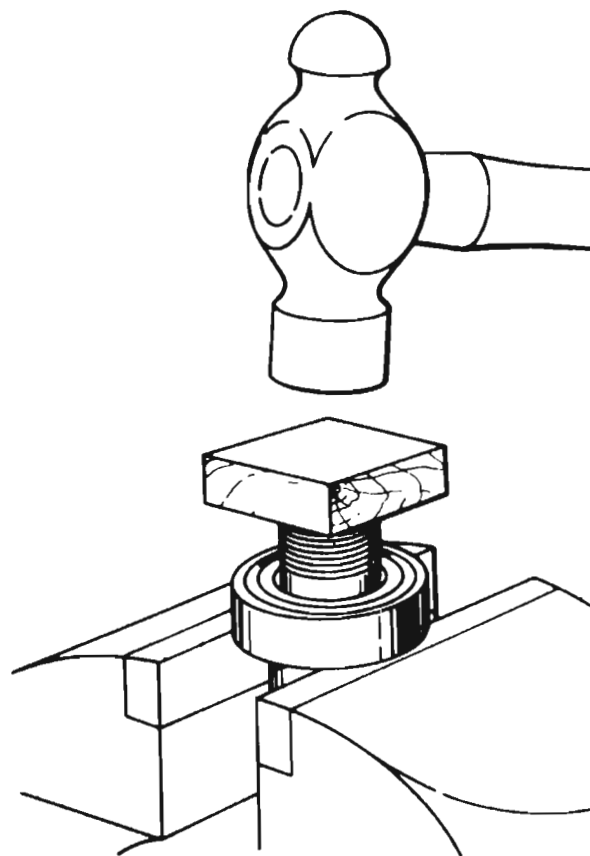

Fig. 110
9. Press front bearing off shaft. If arbor press is not available, place spindle with bearing extending over open jaws of vise, hold block of wood over end of spindle, and use hammer to force spindle out of bearing (Fig. 110).